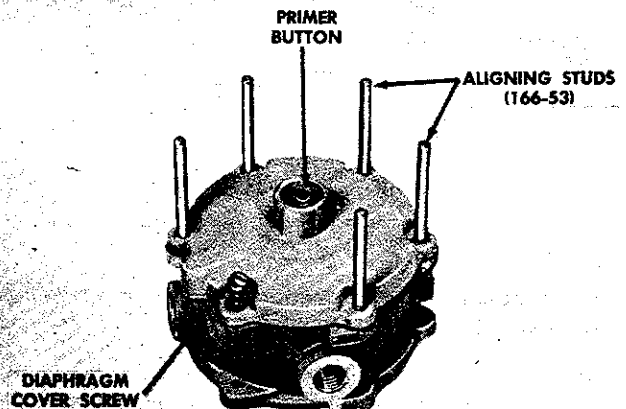

FIGURE 20
11. Install one assembly screw finger tight and then remove one aligning stud and replace it with another screw. Figure 20. Continue in this manner until all six assembly screws have been installed, then tighten all assembly screws evenly.